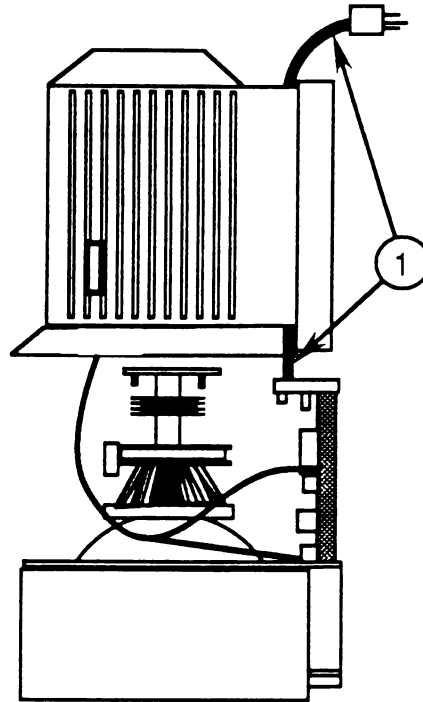

FIGURE 5
3. Guide the AC power cord (Figure 5, #1) through the opening in the rear cover while you lower the cover onto the monitor.